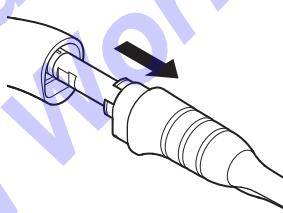

Figure 114 – Tip Sleeve Removal
4. Remove the tip sleeve from the handpiece (Figure 114).